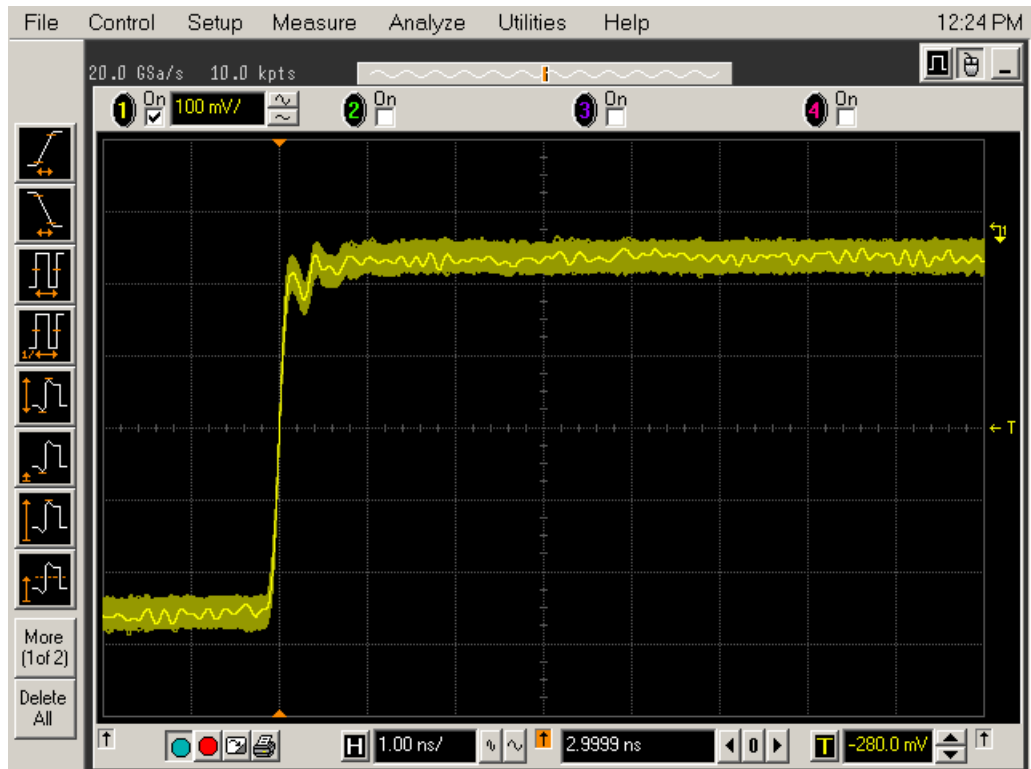

Figure 3 Good Connection
- 4 Set the horizontal position to approximately **3 ns**. You should see a waveform similar to that in **Figure 3**.